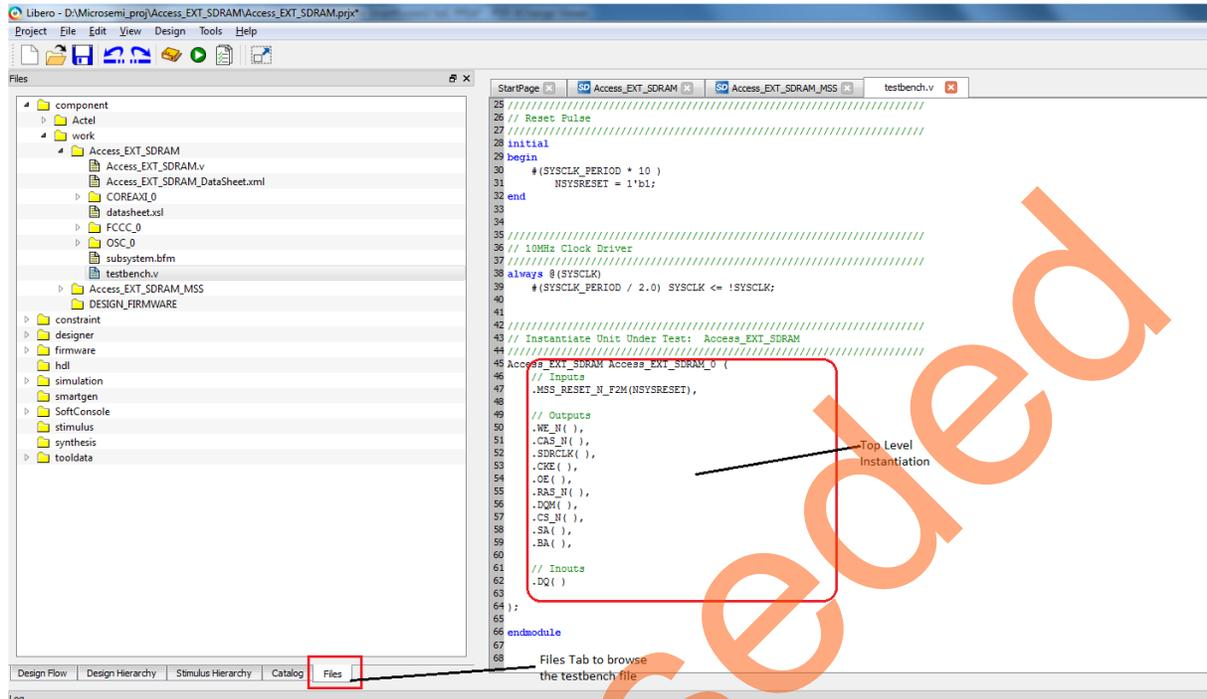

Figure 30. Default Testbench
- In the generated testbench, add the external SDR SDRAM simulation model and map the port with the top-level design SDRAM interface signals. Double-click **testbench.v** in the **Files** tab to open the file, as shown in Figure 30.